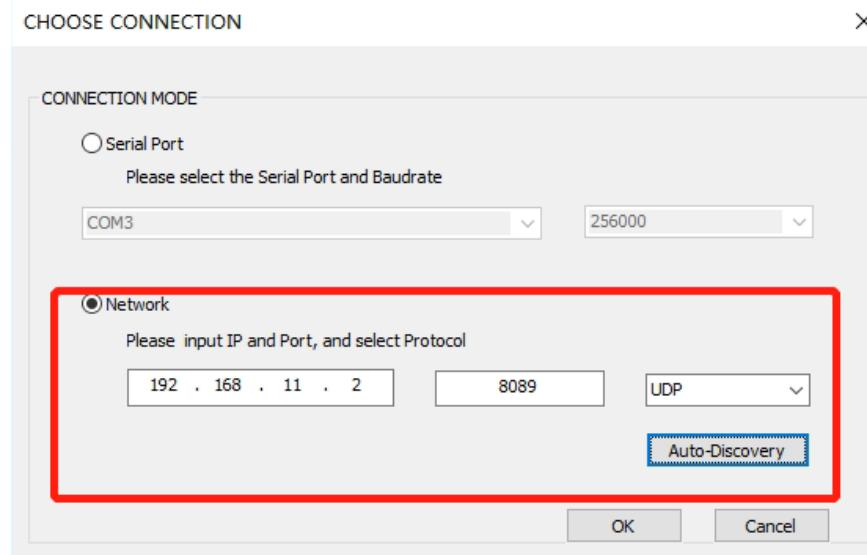
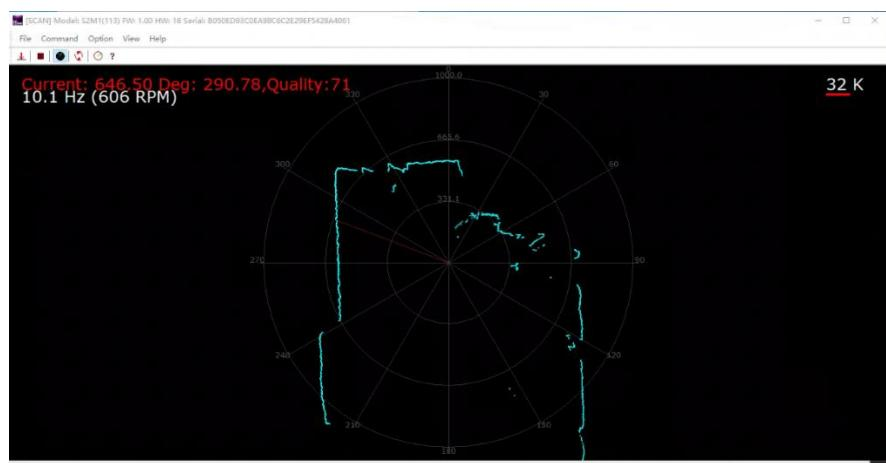

Figure 3-3 Selection Interface of Lidar Connection
Figure 3-5 Point Cloud Display Interface
4) Click "OK" in Figure 3-3 and then click to scan point cloud, as shown in Figure 3-5. For SDK, please refer to startScanExpress and grabScanDataHq.